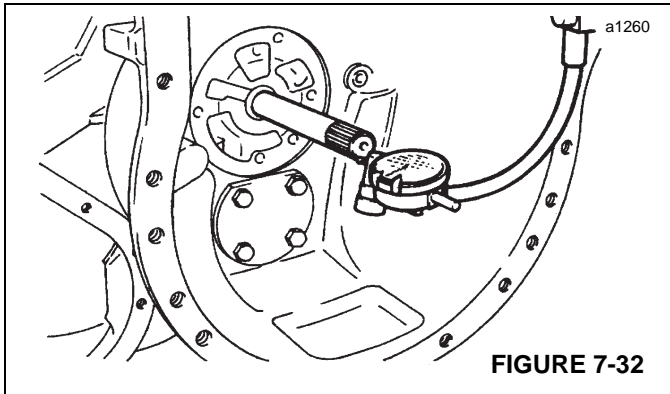

FIGURE 7-32
16. Measure the end play (Figure 7-32) of reverser shaft which should be 0.03 to 0.08 mm (0.001 to 0.003 in).